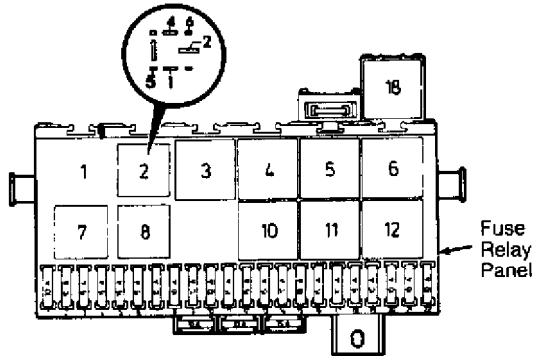

Fig. 6: Identifying Fuse/Relay Panel (Except Vanagon)
1) Ensure fuel pump fuse (No. 5) is okay. Remove fuel pump relay (No. 2) from fuse/relay panel. See Fig. 6. With ignition on, check for battery voltage between the following locations:
1) Ensure fuel pump fuse No. 18 is okay. Remove fuel pump relay No. 12 from fuse/relay panel. See Fig. 6. With ignition on, check for battery voltage between the following locations:
See Fig. 6.